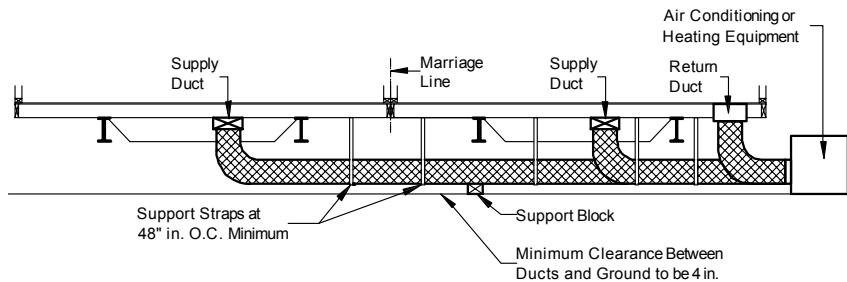

Figure 99. Ducts connecting exterior heating and/or cooling equipment to the home
2. **Install ducts.** Install the appropriate supply and return ducts (not provided) between the remote unit and the home (**Figure 99**), making connections according to the instructions for crossover ducts in **Crossover Connections** (p. 55).
Prepare the whole-house ventilation system according to the ventilation system manufacturer's instructions. Confirm that any fresh air intake ducts extend to the exterior and do not draw air from the crawlspace under the home. Do not allow any fresh air ventilation intake ducts to become kinked or restricted, forming a trap (**Figure 99**).